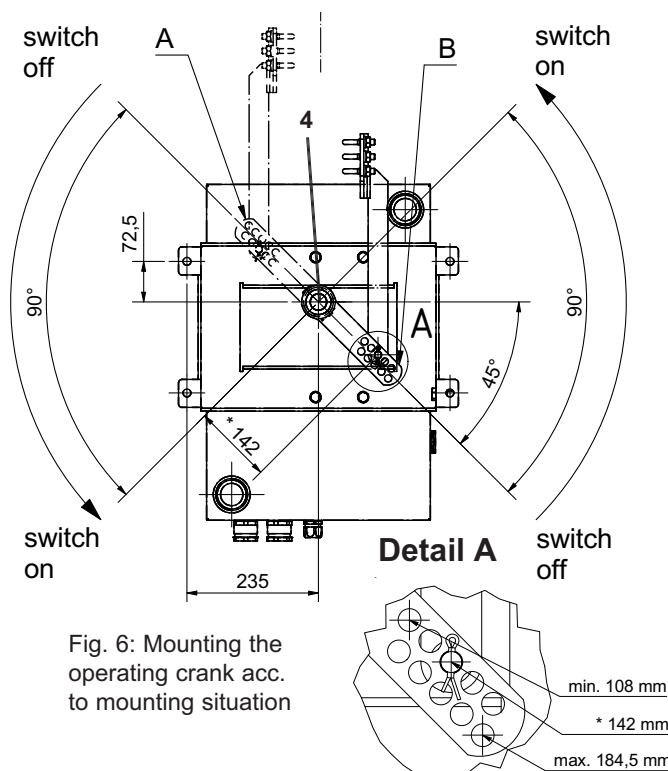

Fig. 6: Mounting the operating crank acc. to mounting situation
- **Mounting situation A:** Operating crank (B) 45° upwards mounted - upon command ON, the operating crank rotate 90° in **downward** direction, to actuate the switch in position ON (see Fig.: 6).
- **Mounting situation B:** Operating crank (B) 45° downwards mounted - upon command ON, the operating crank rotate 90° in **upward** direction, to actuate the switch in position ON (see Fig.: 6).